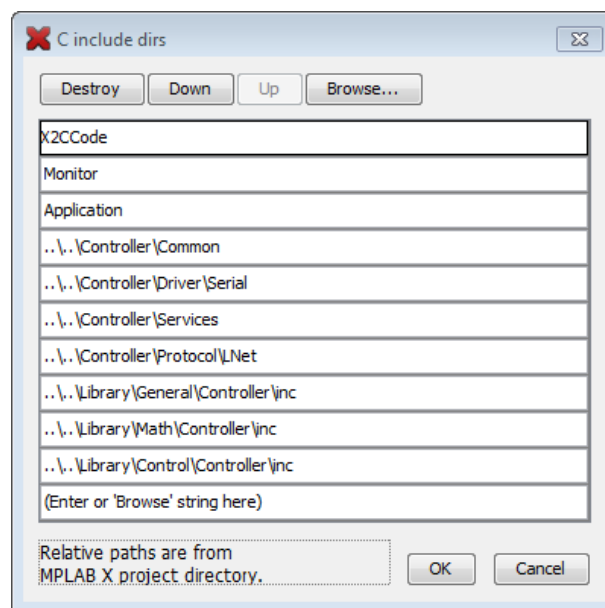

Figure 19: Default path variables for the include files
3. In the case the demo application is copied/moved to a different location, the include paths have to be adapted. To ensure the compiler uses the correct path variables right click on the **Projectname** → **Properties** → **XC16 Global Options** → **xc16-gcc**. In the drop down menu **Option categories** choose **Preprocessing and messages**. Click on the dots beside *C include dirs*. There are relative paths to the needed include files listed as seen in Figure 19. Correct the links by double clicking on the path variables.